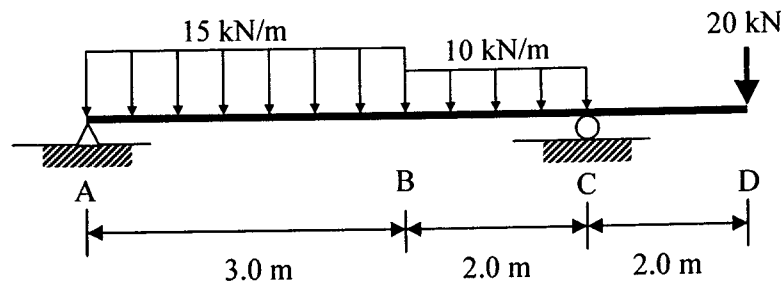

Figure 6
4. A beam as shown in Figure 6 is carrying a 20 kN concentrated load at D and two uniformly distributed loads of 15 kN/m and 10 kN/m along segment AB and BC, respectively. The beam is pinned at A and supported by a roller at C.